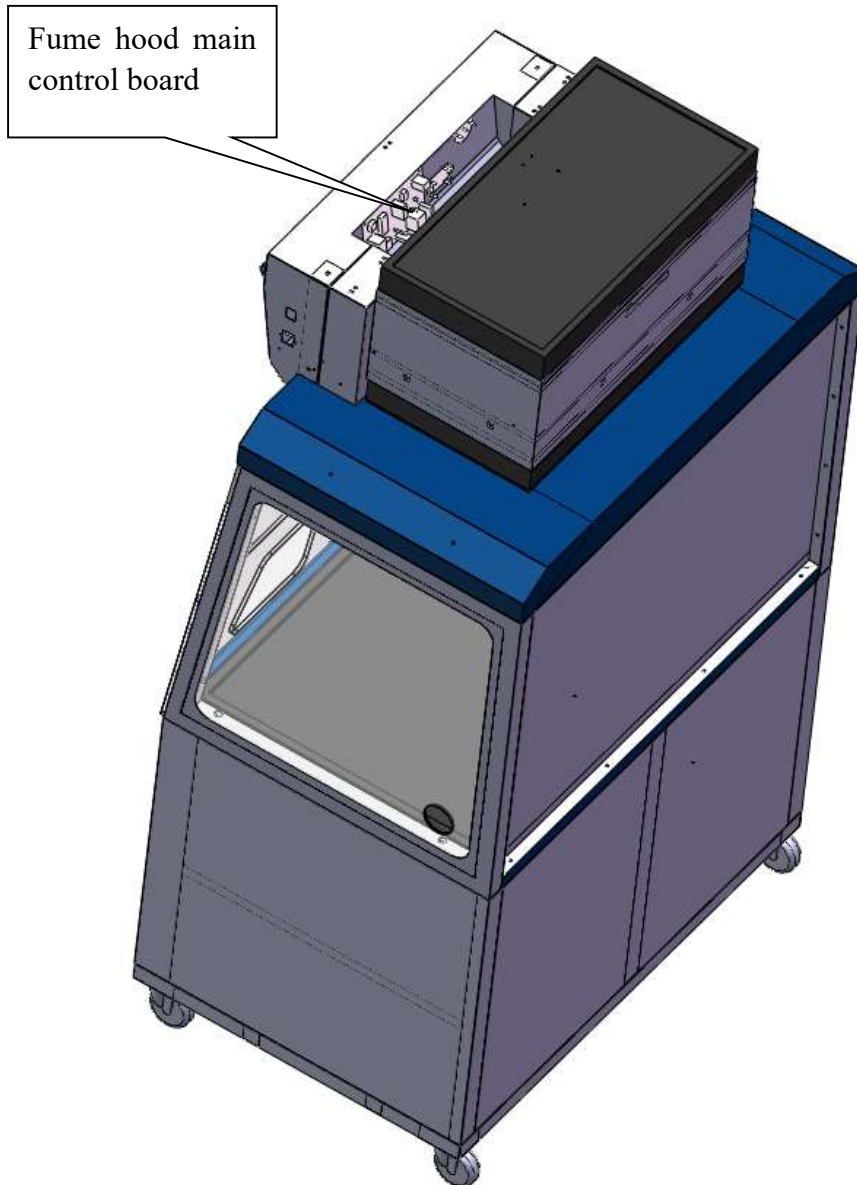

Figure 2
1.3 After confirming that there is no problem with the above items, try a multimeter to detect the input voltage of the transformer (the voltage value should be the supply voltage of the device) and the output voltage (refer to Figure 2). First, use the multimeter to test whether there is voltage on the two input AC powers of the transformer. This voltage is the grid voltage. Test the output voltage of the transformer again: Use a multimeter to test that the voltage between the two wires at CN6 is between 12V and 14V. This indicates that the voltage output is correct. If there is no voltage in the test, the transformer is broken. Please replace the transformer.